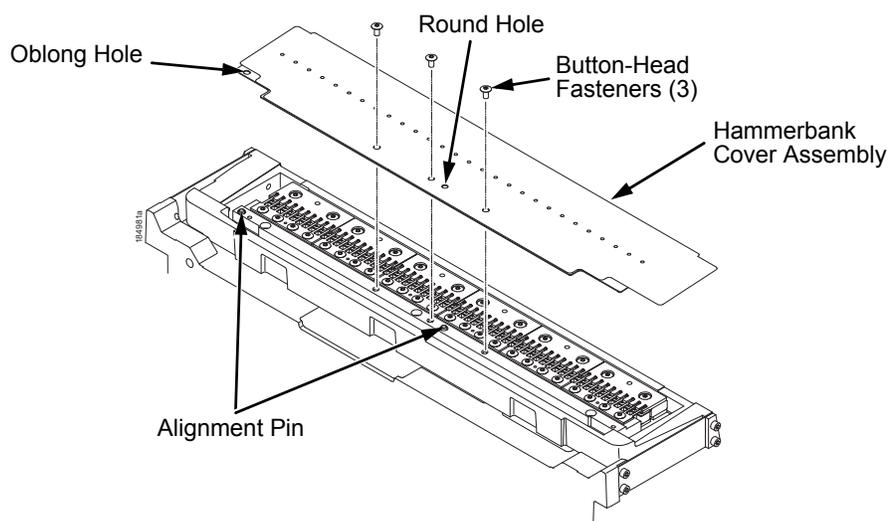

Figure 1. Hammerbank Cover Assembly
4. Lift the thick plate of the hammerbank cover assembly at one end, and peel the cover away from hammerbank magnets. (See Figure 1.)
1. With the thick plate facing the hammerbank, hold the hammerbank cover assembly at a slight angle and engage the bottom edge on the alignment pins. First engage the center (round) hole, then the left (oblong) hole, to ensure that the cover lies flat on the hammerbank. (See Figure 1.)